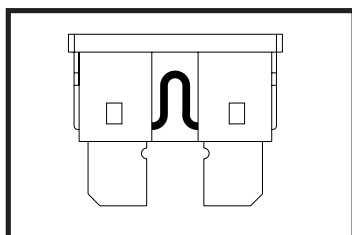

Figure 19 Working Fuse
2. Examine the fuse to be sure it is blown. See figures 19 and 20.